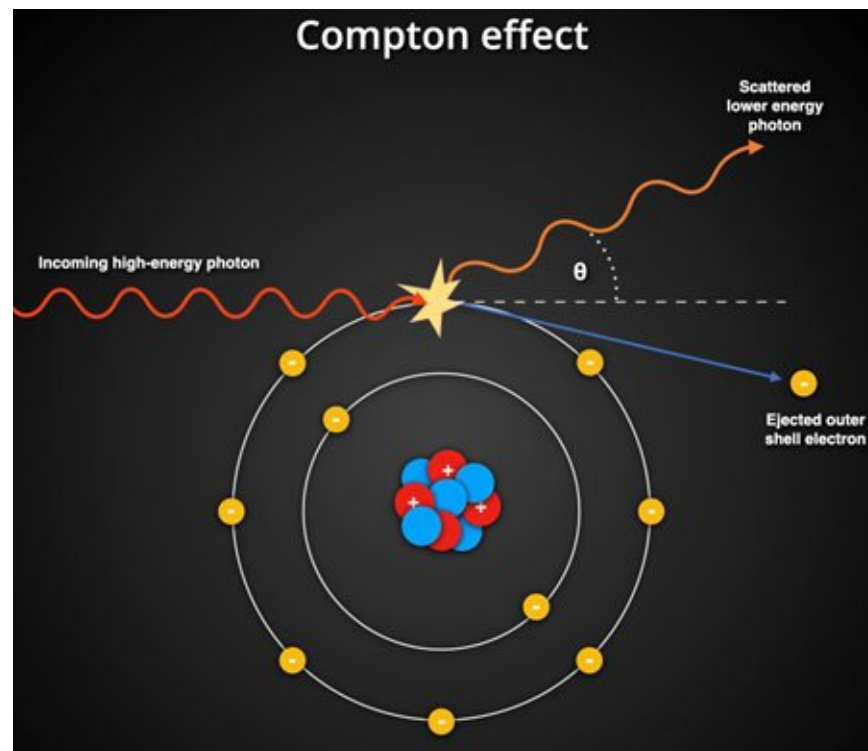

Fig. 9 – Compton interaction
Filtration (Fig. 9)
- An X-ray hits an electron which is ejected from the atom (atom ionized) (Fig. 9).